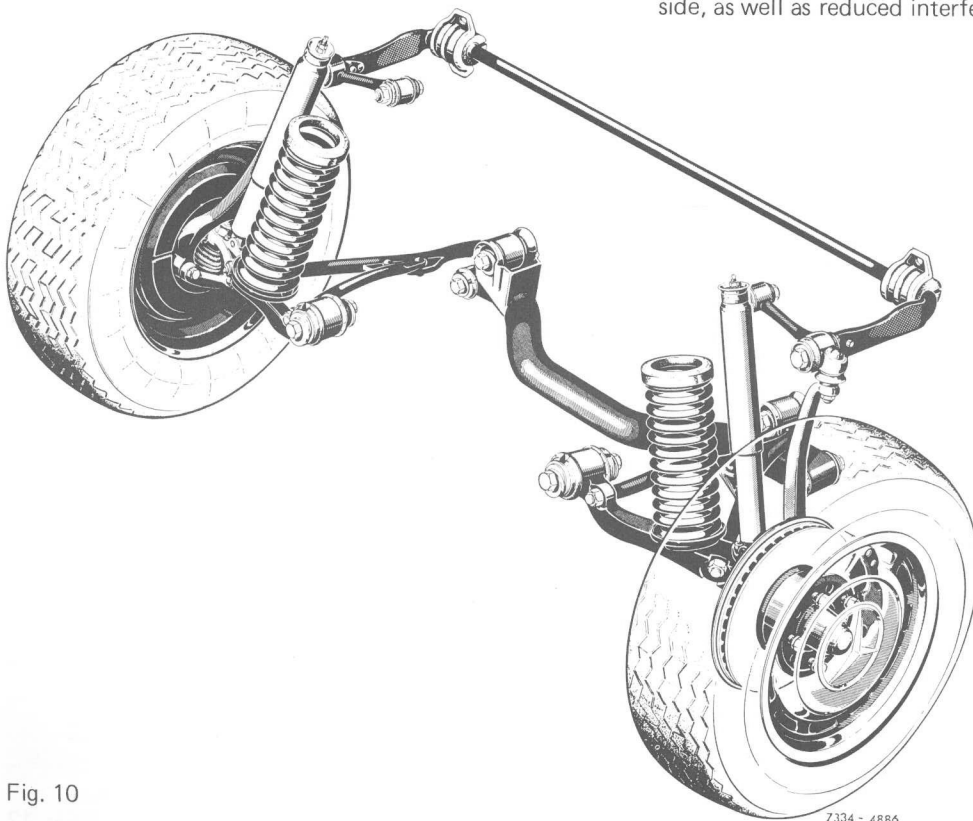

Fig. 10
The front axle of vehicle model 116 is a double control arm axle with maintenance-free rubber mountings and ball joints. The lower control arm (4) is designed as an A-arm (wishbone); it is mounted to the frame cross member at the front and to the cross yoke (3) at the rear. The cross yoke is elastically attached to the frame floor and contributes to the excellent noise and impact insulation characteristics of the vehicle (Fig. 10).